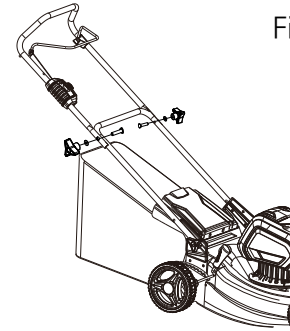

Fig.3
3. Unfolding and adjusting handle (See Fig.3)